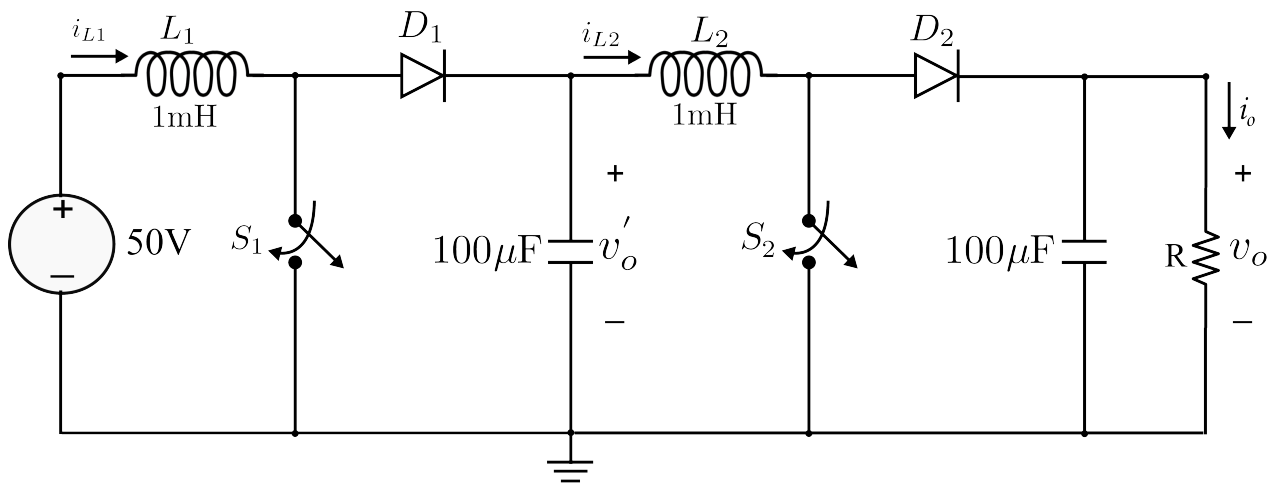

Figure 1: Cascaded boost converter
Question : In Fig. 1, a cascaded boost converter feeds a resistive load from a low voltage battery source. Switches S_1 and S_2 are simultaneously switched with a frequency of 10 kHz and a duty ratio (D) of 0.5. The load draws a constant power of 200 W and all the elements of circuit are assumed to be ideal. Find
The DC – DC converter shown in Fig. 1 has two boost converters connected in a cascaded fashion. The first converter's output is the input to the second converter and the two converters can be considered separately.